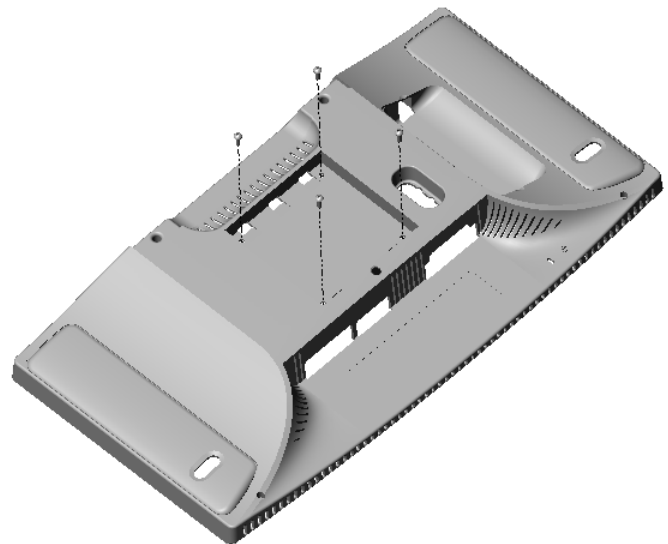

Figure 3. Remove Screws
6. Remove four screws (supplied) from the back of your display (see Figure 3).